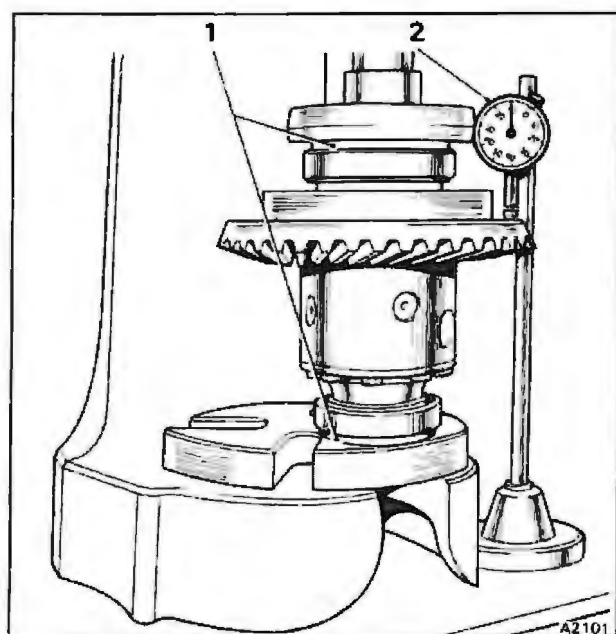

Fig. J2-5 Checking the crown wheel run-out
13. Place the roller bearing outer tracks in position and stand the assembly on one end. Position the assembly in a press with one adjusting washer fitted to each bearing (see fig. J2-5).